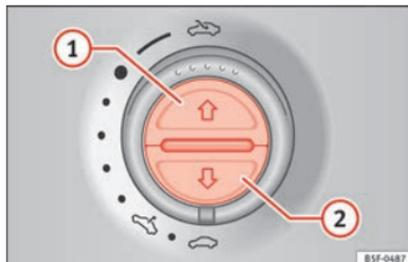

Fig. 98 On the interior roof lining: switches for the sun blind.
Opening completely (automatic function)	Press button » Fig. 98 ① briefly.
- *Sun blind*: Within five seconds of triggering the anti-trap function, press button » **Fig. 98**  until the sun blind closes fully.